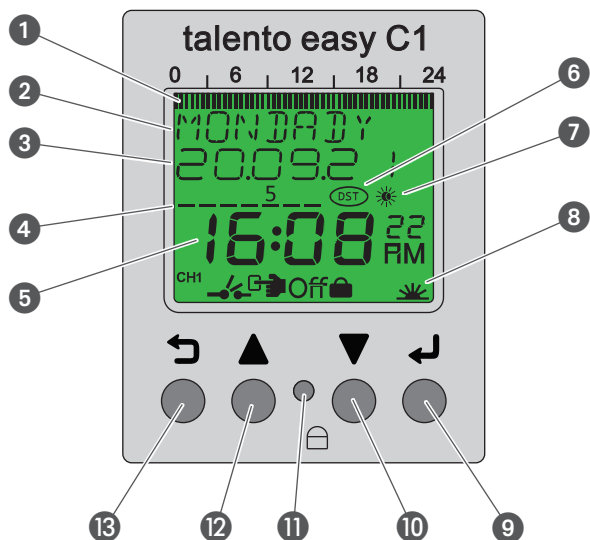

Fig. 2: Display layout
- ④ Day of the week
- ⑤ Time
- ⑥ Summer/winter
- ⑦ Day/night
- ⑧ Symbol bar
- ⑨ Enter button
- ⑩ Down button
- ⑪ Reset button
- ⑫ Up button
- ⑬ Menu button
### Function buttons (Fig. 2/⑨ + ⑩)
### Symbols (Fig. 2/6 + 7 + 8)
The menu structure appears on the display when you press the menu button  (Fig. 2/13).